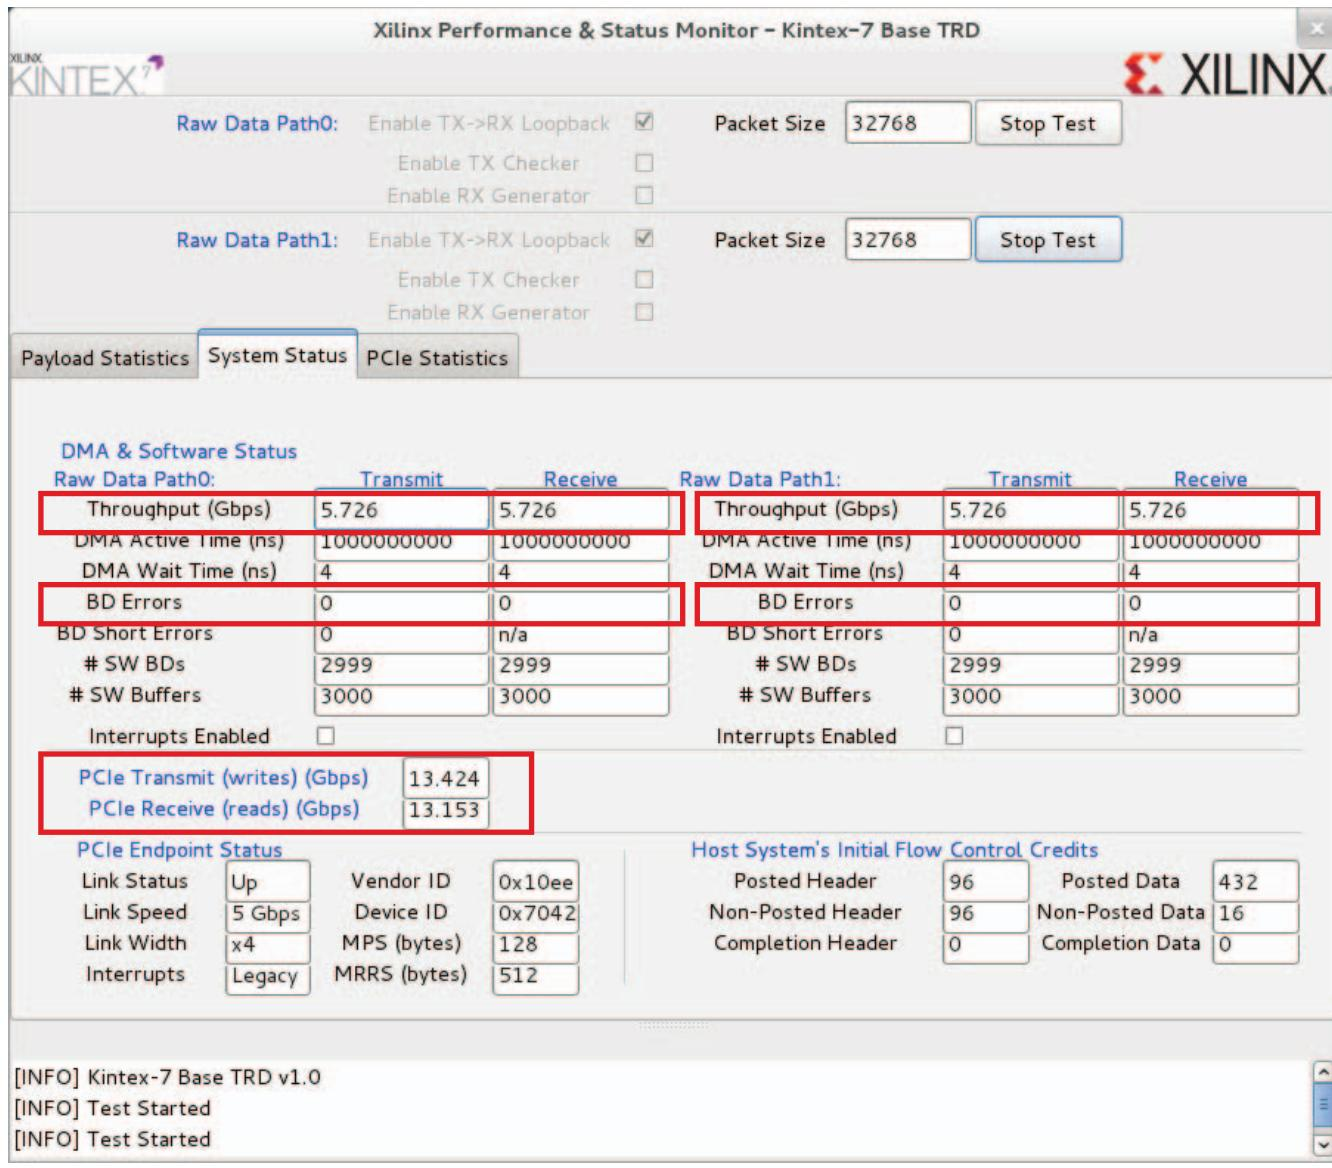

Figure 21: Verify Error-Free Operation in the Performance Monitor
3. Verify TRD operations through the status information provided by the GUI (see Figure 21).